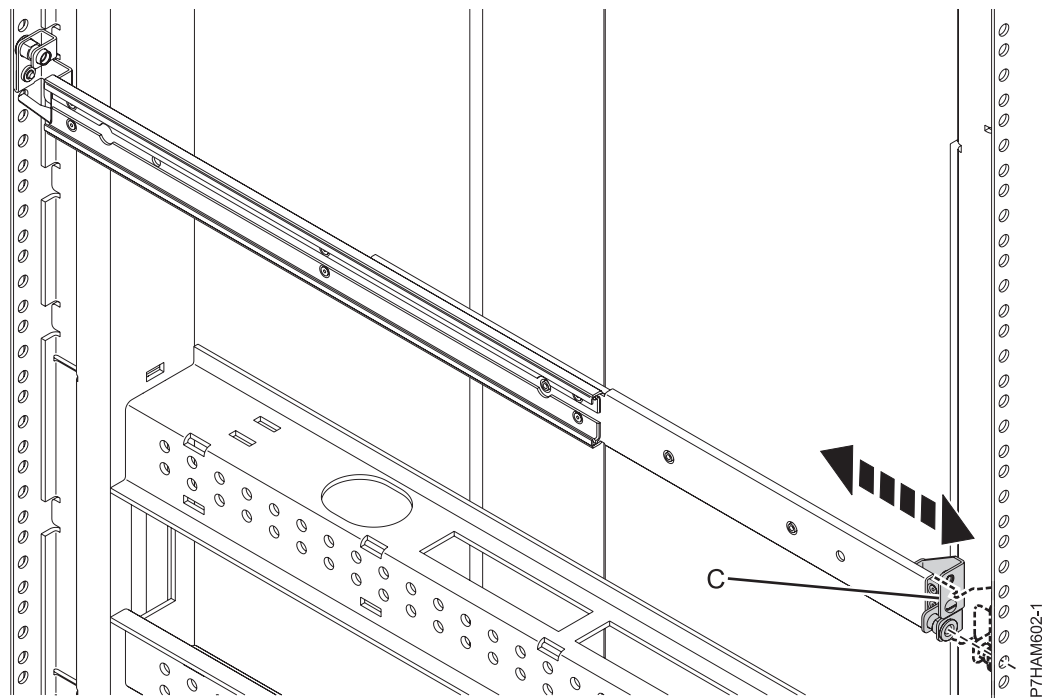

Figure 10. Expanding the rail to the rear of the rack
- d. At the rear of the rack, locate the two marks that you made previously on the EIA strips. Compress the rail (C) as shown in Figure 10, and then expand the rail carefully toward the marks until the rail end meets the rear rack flange.